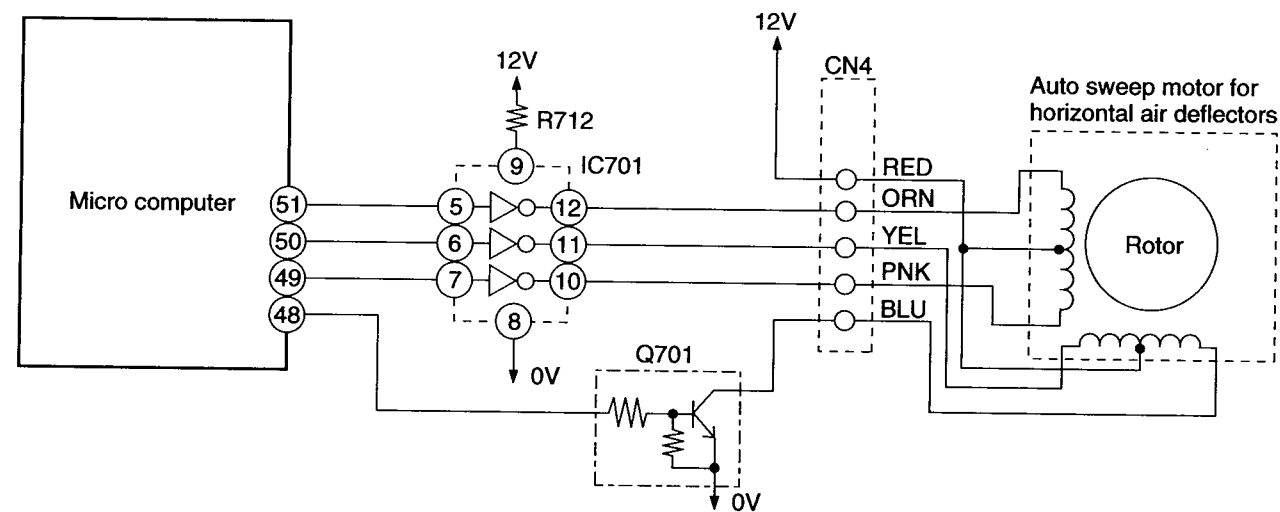
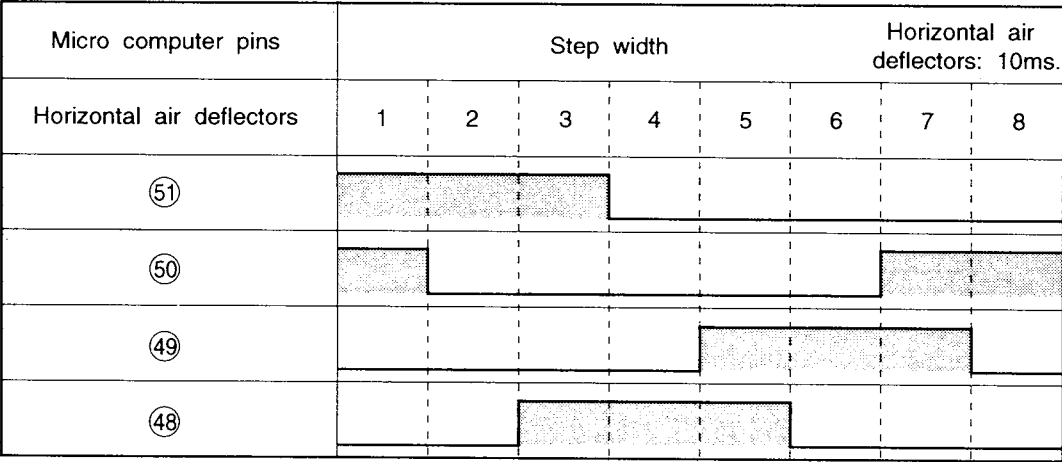

Fig. 4-1 Auto Sweep Motor Circuit (Horizontal air deflectors)
Fig. 4-2 Micro computer Output Signals
● Fig.4-1 shows the Auto sweep motor drive circuit; the signals shown in Fig.4-2 are output from pins ④⑧ - ⑤① of the micro computer.
● As the micro computer's outputs change as shown in Fig.4-2, the core of the auto sweep motor is excited to turn the rotor. Table 4-1 shows the rotation angle of horizontal air deflectors.